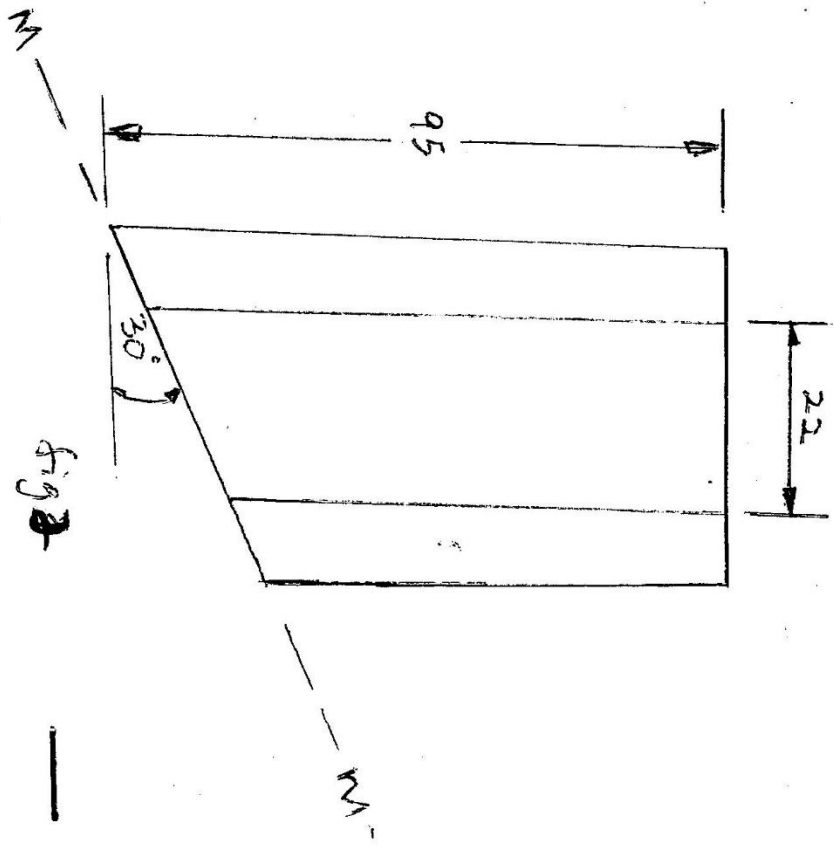

fig 2
- (a) Fig 2 shows the front view of a truncated hexagonal prism. Draw the surface development and the plan view of the component. (10mks)